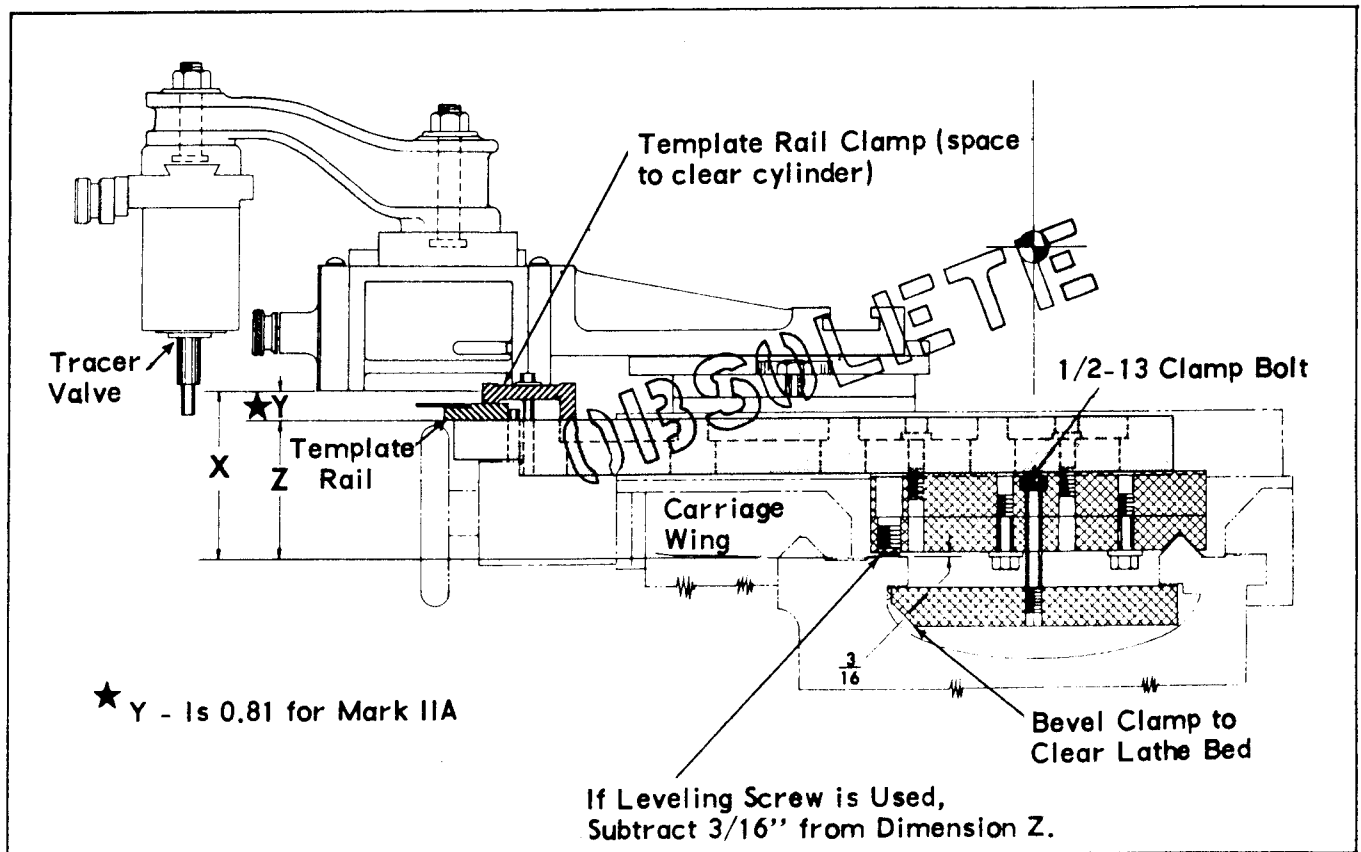

Figure 2-12. Typical Installation of Earlier "Factory Adapted" Template Rail Assemblies.
a. Figure 2-12 shows a typical installation of a "factory adapted" template rail assembly. Standard template rail assemblies may be easily adapted in the same way. In the illustration shown, a leveling screw has been installed in each base as an aid in leveling the template rail with respect to the lathe. In addition, a 1/2-13 socket head screw has been installed to provide for tightening each clamp from the top of the rail.
- (1) Install the tracer slide assembly and determine dimension X, figure 2-12.
- (2) Subtract dimension Y from dimension X to obtain dimension Z. This will be the total stack height of the template rail assembly.
2-25. INSTALLING TEMPLATE RAIL ASSEMBLY. (with early Mark IIA thru VI Series). To install the 40754 Template Rail Assembly (supplied with early models of the Mark IIA and III Series) or the 43554 Template Rail Assembly (supplied with early models of the Mark IV, V and VI Series), refer to figures 2-12 through 2-14 in the preliminary set-up procedures. Be careful to install the template rail parallel to the lathe bed.